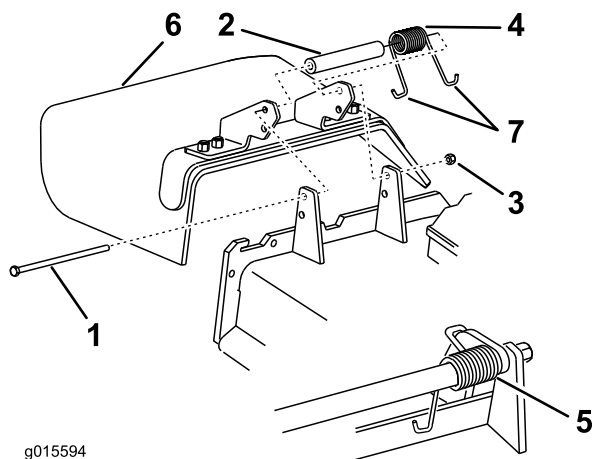

Figure 98
1. Remove the locknut, bolt, spring and spacer holding the deflector to the pivot brackets (Figure 98). Remove damaged or worn grass deflector.
Note: Make sure one J end of spring is installed behind deck edge before installing the bolt as shown in Figure 98.
3. Install bolt and nut. Place one J hook end of spring around grass deflector (Figure 98).